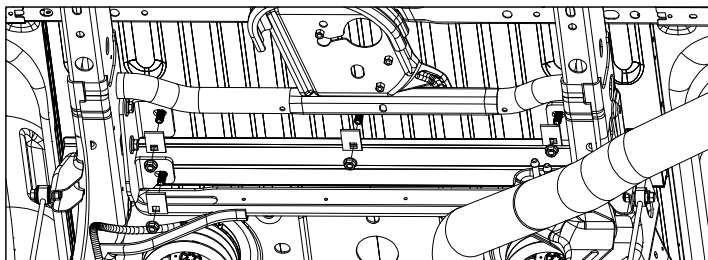
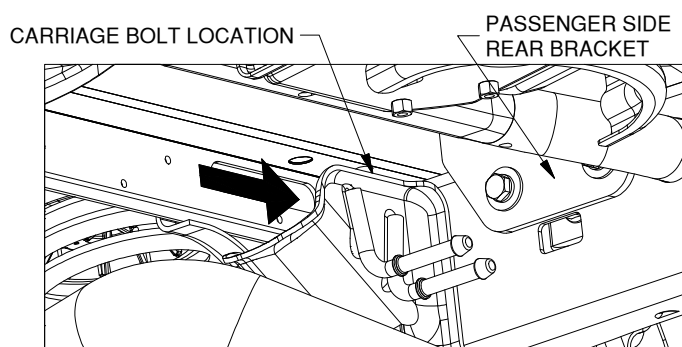

Figure C6: View looking up at the bottom of the truck bed.
Figure C7: View looking at passenger side frame and bed cross member.
7. **Fasten the rear mounting rail.** Install an offset square hole washer and 1/2" flange nut on each of the carriage bolts passing down through the bed, as shown in Figure C6. Do not tighten at this time. The passenger side 1/2" x 4-1/2" carriage bolt can be accessed from a space in the frame geometry next to the bolt, see Figure C7. Use the space to thread the offset square hole washer and 1/2" flange nut. Use a box end wrench to tighten this nut.